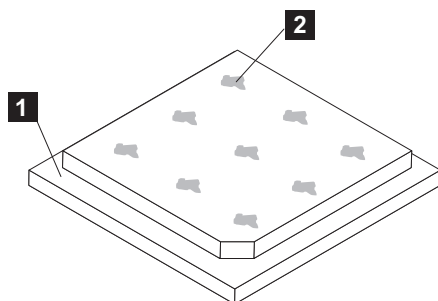

Figure 198. Applying thermal grease to the SAN Volume Controller 2145-DH8 microprocessor
- e. Use the thermal-grease syringe to place nine uniformly spaced dots of 0.02 mL each on the top of the microprocessor, as shown in Figure 198. The outermost dots must be within approximately 5 mm of the edge of the microprocessor to ensure uniform distribution of the grease.